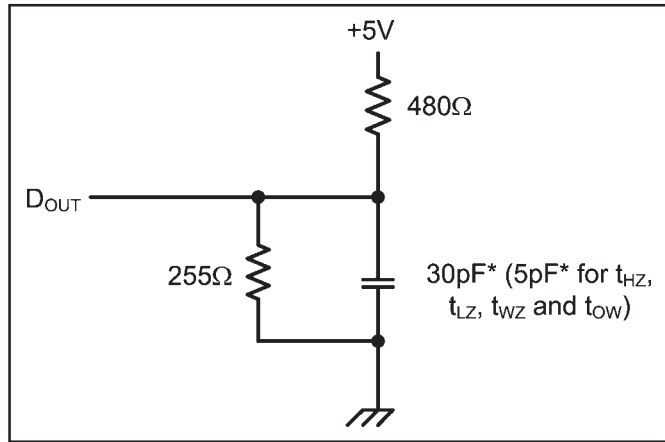

Figure 1. Output Load
7. Transition is measured  $\pm 200mV$  from steady state voltage prior to change with specified loading in Figure 1. This parameter is sampled and not 100% tested.
Output Load	See Figures 1 and 2